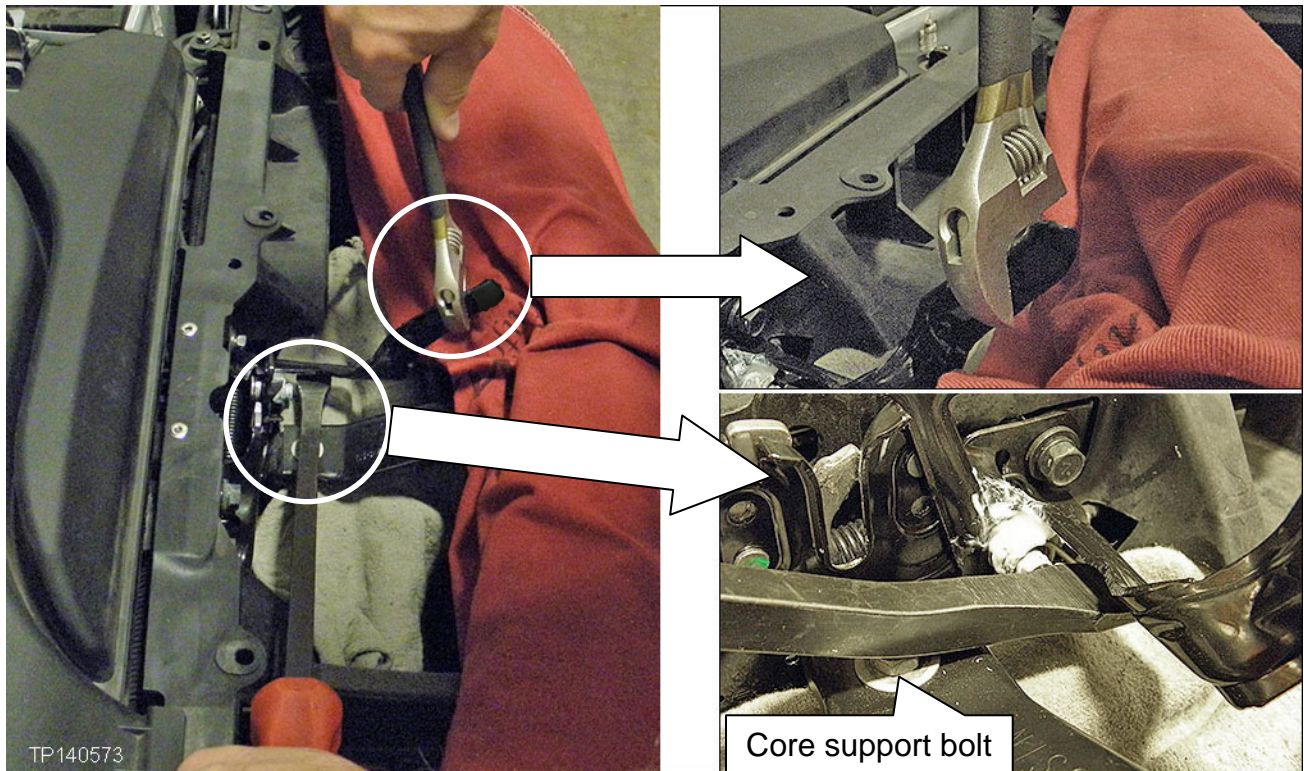

Figure 10
12. Position the pry-bar and an 8-inch adjustable wrench on the secondary hood latch lever as shown in Figure 10.